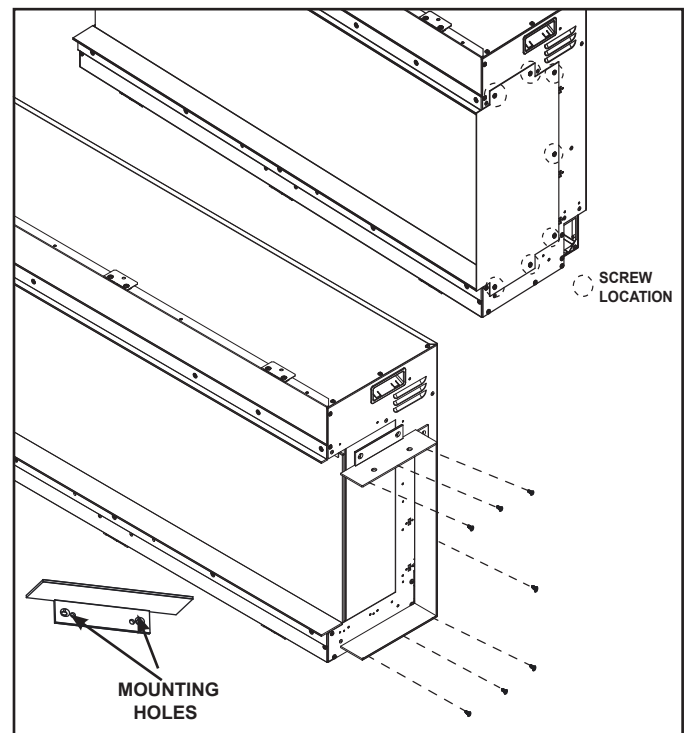

Figure 4.3 Plate Removal and Trim Install
1. To install the appropriate trim for the desired configuration, if applicable, remove the the flat side cover plate from the side of the appliance by removing seven screws. See Figure 4.3.
2. Install the desired trim, 1/2-inch (13 mm) or 2-inch (51 mm), by securing the top and bottom pieces to the side with two screws each that were removed from the flat side cover plate. Attach the vertical trim with three screws. Note: The bottom trim has 4 holes. See Figure 4.3.